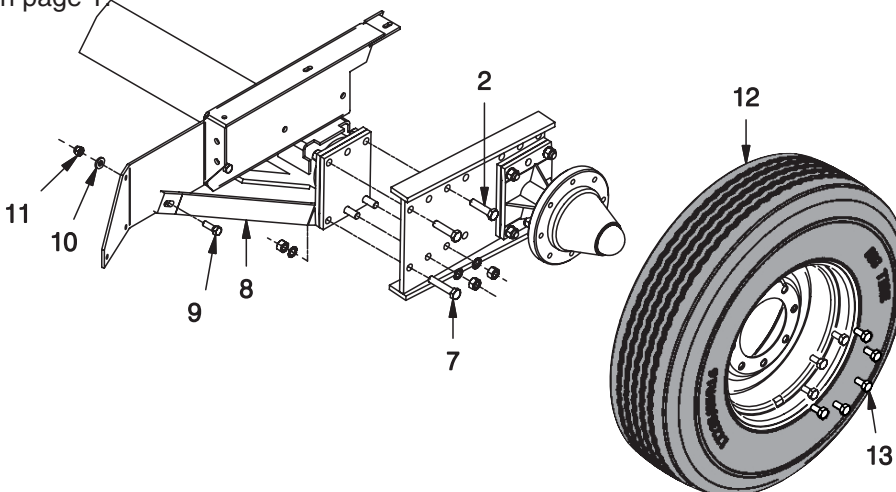

Figure 3 - Mounting Wheel Extension and Tire
C. Place (2) R13807958 Bolts through MNT0030914 Wheel Extension as shown in Figure 3. Place the Wheel Extension on to the axle as shown in Figure 3. Place (1) R13806335 bolt through the wheel extension as shown in Figure 3. Place (1) F000007705 RH Brace. Torque all nuts (torque chart on page 1). Mount the tire with the valve stem pointing to the inside of the baler. Torque all nuts and bolts as per torque chart on page 1.